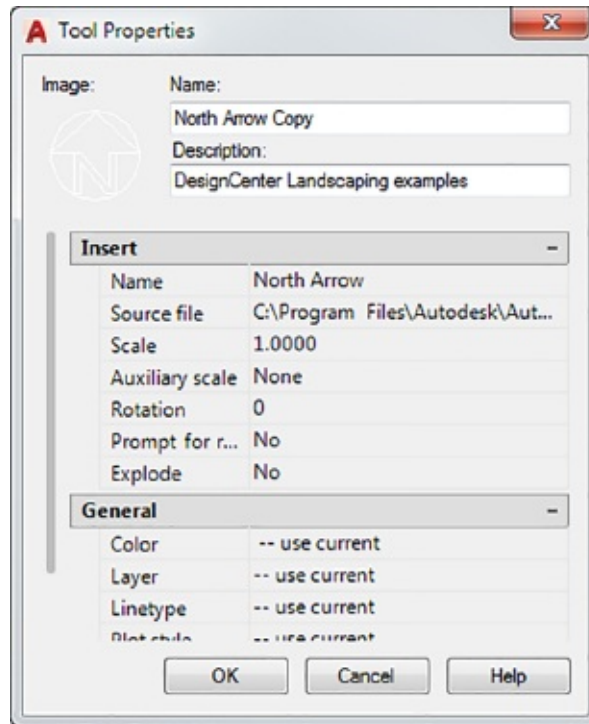

FIGURE 25.30 The Tool Properties dialog box
4. Right-click the North Arrow Copy tool and choose Properties to open the Tool Properties dialog box (see Figure 25.30).